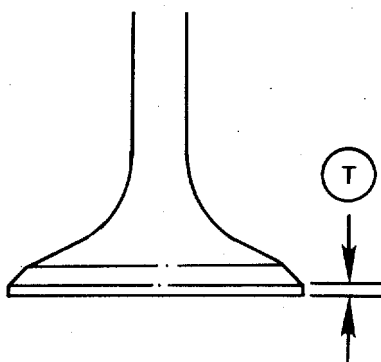

FIGURE 4-13. Measuring Rim Thickness.
- c. Measure rim thickness (T) limit as shown in FIGURE 4-13.